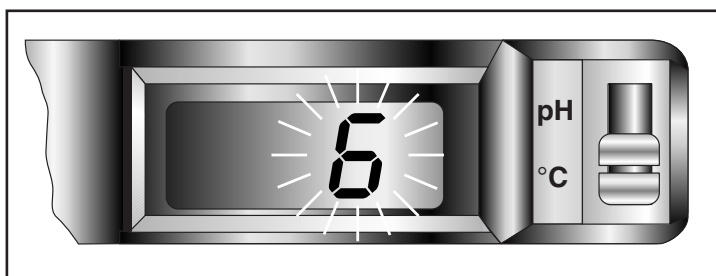

Figure 5-4. Blinking pH Code
- 8. A single character **pH calibration code "6"** should be blinking in the display. Refer to Figure 5-4. If it is not, press the "SET" button again.